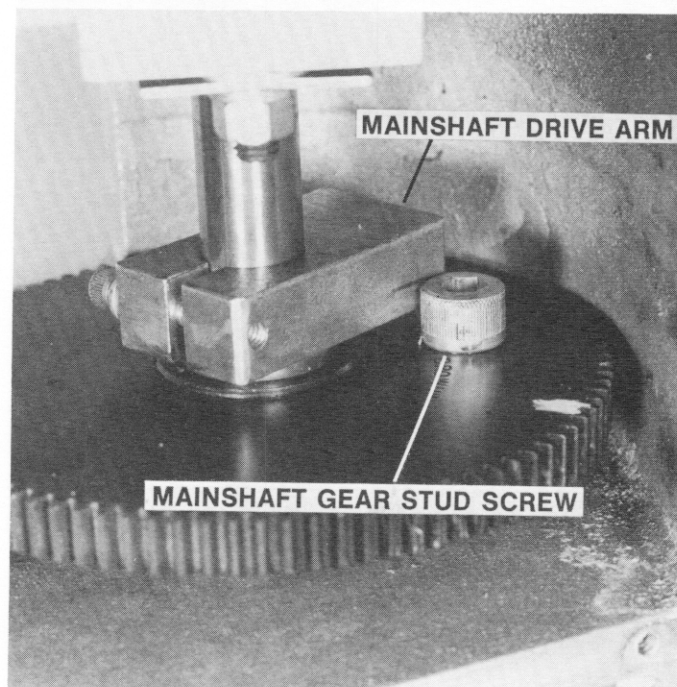

Figure 19 — Mainshaft Gear Stud Screw Contacting Mainshaft Drive Arm
- D. Observe amount of mainshaft gear rotation necessary to make mainshaft gear stud screw contact the right side of mainshaft drive arm (see Figure 19). The mainshaft gear stud should touch or nearly touch mainshaft drive arm. The mainshaft drive gear is then in proper position when trap is cocked.